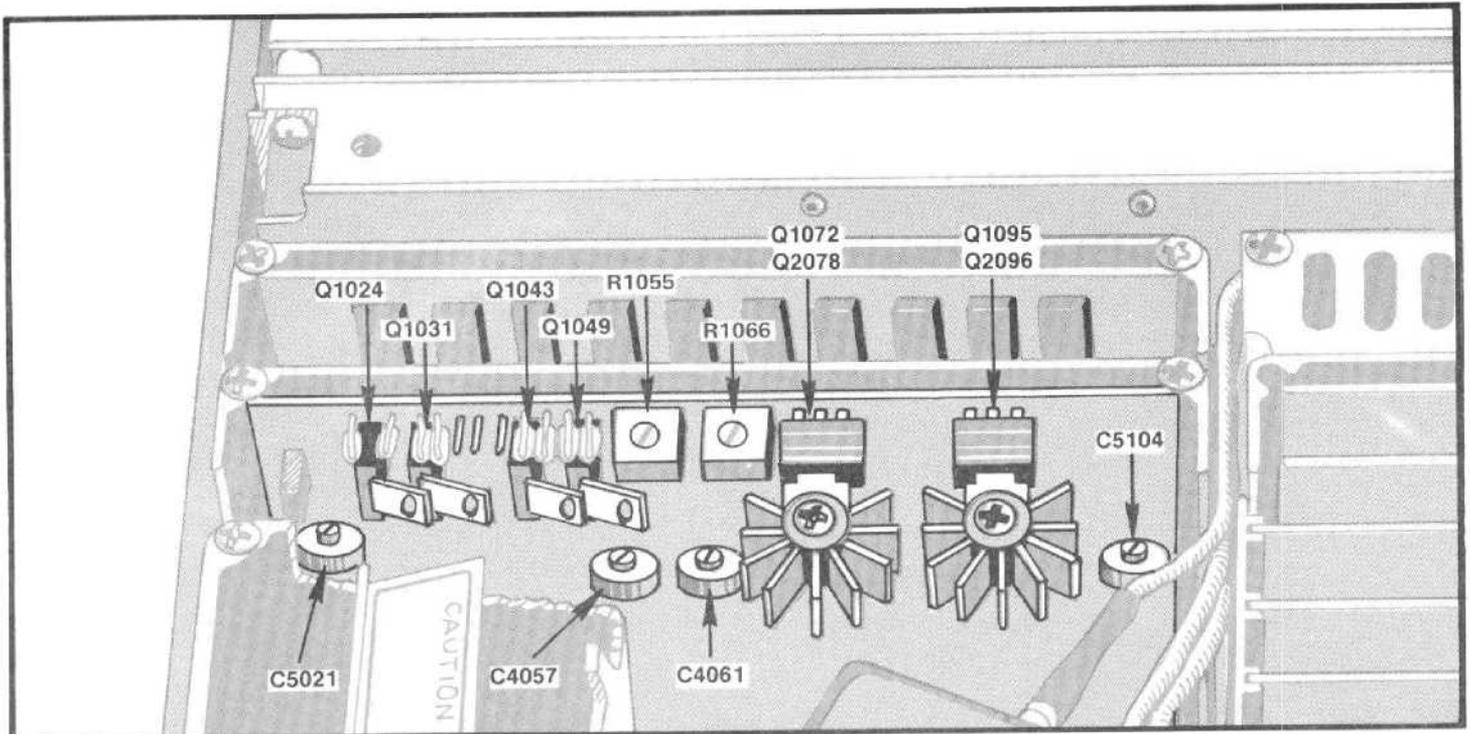

Figure 5-6. Test points and adjustments on the Deflection Amplifier for gain and frequency response.
j. Connect the test oscilloscope probe to the collectors of Q1031 and Q1024, on the Deflection Amplifier board (see Figure 5-6). Adjust C5021 for the best frequency response (no overshoot or rolloff).
k. Connect the probe to the collectors of Q1043 and Q1049, on the Deflection Amplifier board and adjust C4057 (Figure 5-6) for the best response.
l. Connect the probe to the collectors of Q1072, Q2078 (Figure 5-6) and adjust C4061 for the best response.
m. Connect the probe to the collectors of Q1095, Q2096 (Figure 5-6) and adjust C5104 for best response.